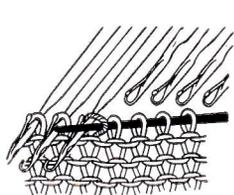

Fig. 70
- a. Take the knitting from the knitter to the knitting needle. (See Fig. 70)